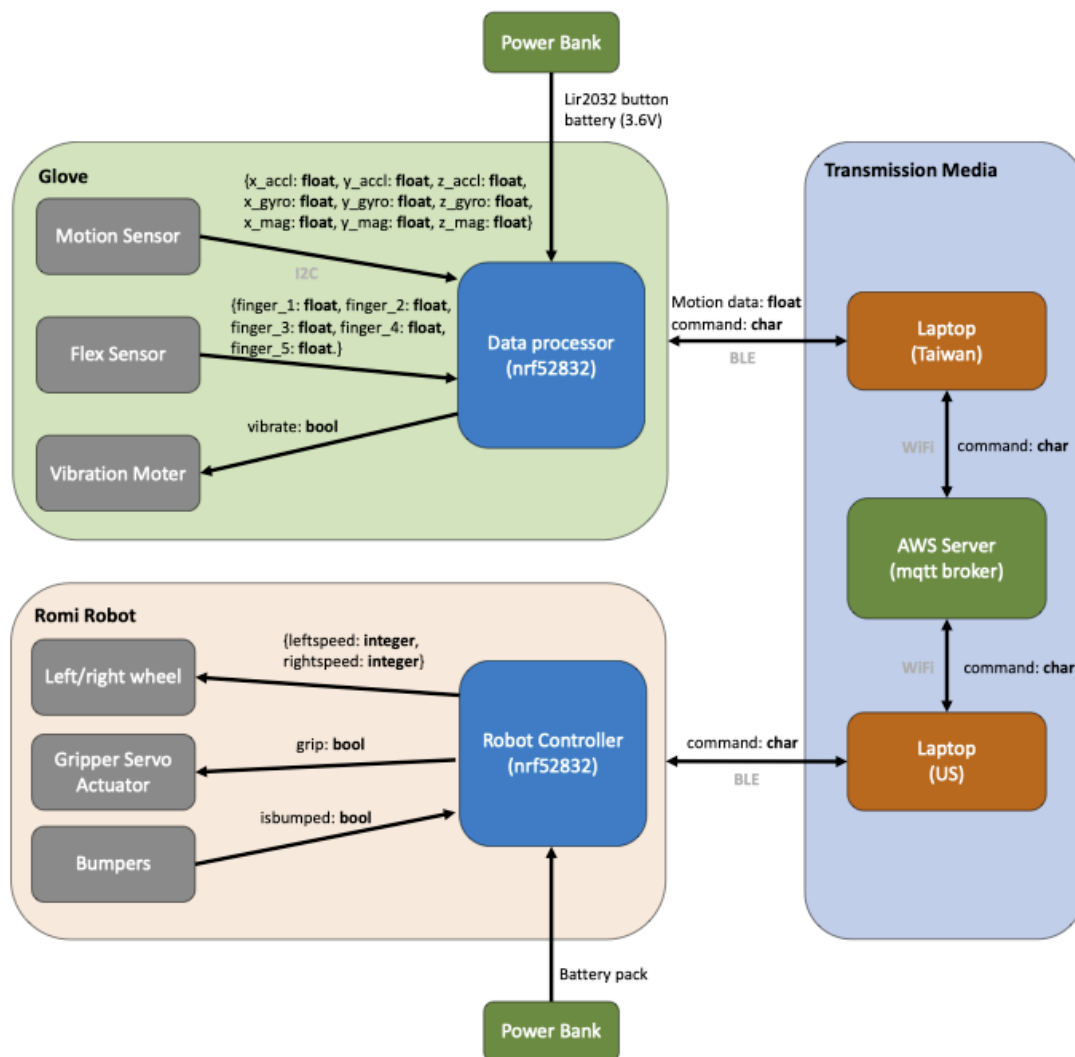

Figure 1: System Overview.
The gloves will collect the data of the gestures and transmit to the laptop (Taiwan) via buckler's BLE. Data will be processed using a gesture recognition algorithm to determine the command from the commander. The command will be sent to the mqtt broker via Wifi to be routed to the laptop (US). With that, Romi robot will receive the command via the buckler's BLE and react according to our finite state machine. Figure 1 illustrates the concept of our system.